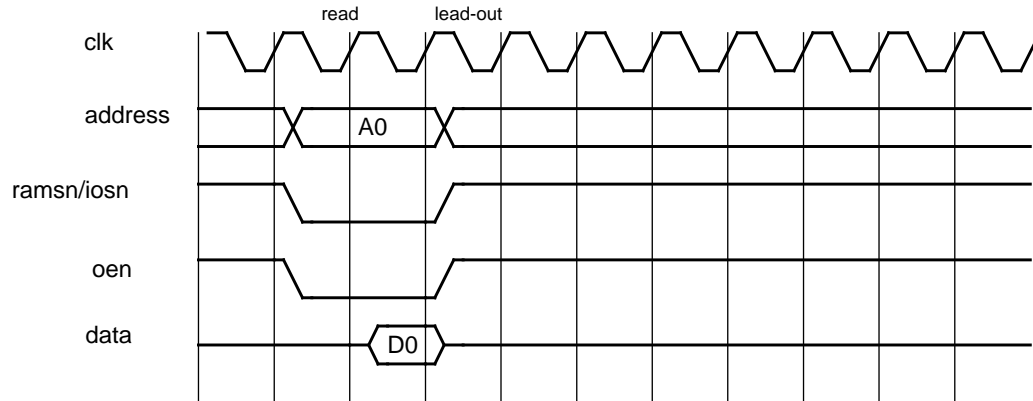
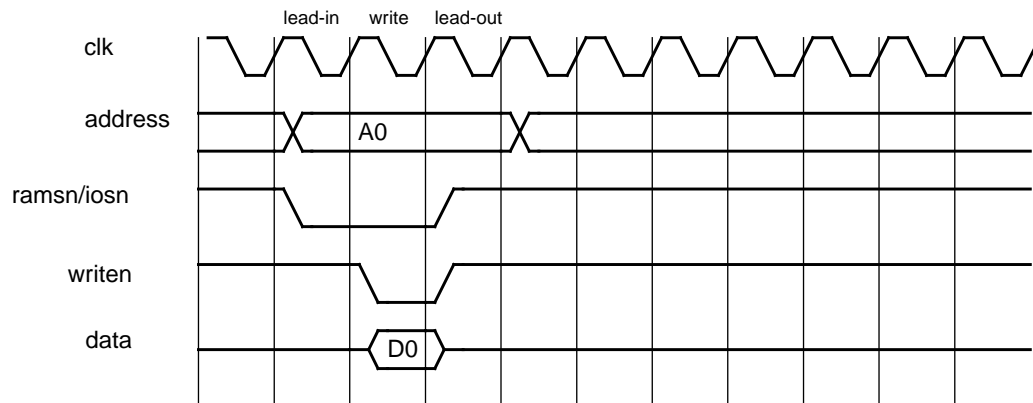

Figure 267. 32-bit PROM/IO read cycle
Figure 268. 32-bit PROM/IO write cycle
For the PROM and I/O operations, a number of waitstates can be inserted to increase the read and write cycle. The number of waitstates can be configured separately for the I/O and PROM address ranges, through a programmable register mapped into the APB address space. After a reset the waitstates for PROM area is set to its maximum (15). Figure 267 and figure 268 show timing diagrams for the PROM read and write accesses.
Read accesses to 32-bit PROM and I/O has the same timing, see figure 267
The write access for 32-bit PROM and I/O can be seen in figure 268